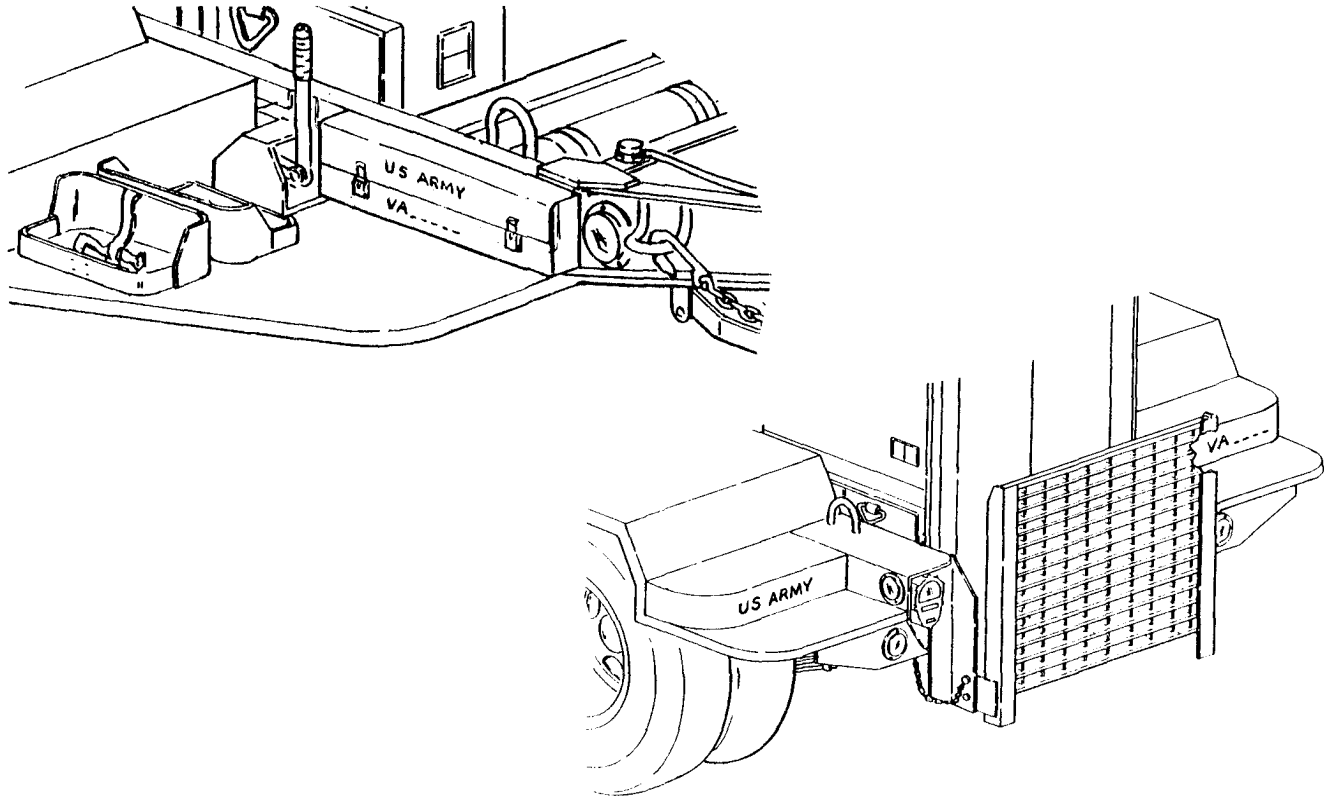

Figure 5-2. Power Unit Markings.
**5-4. Marking.** (See figure 5-2.) The power unit four-digit registration number, preceded by the prefix "VA" and the words "U.S. ARMY", is marked in three places on the trailer. Marking is done in accordance with MIL-STD-642. On the fender, over each wheel, "T.P. 35 PSI" is marked in  $1.00 \pm .12$  inch high characters in accordance with MIL-STD-130. Figure 5-2 shows the approximate location of markings on the power unit. If required, touch-up painting of the base color shall be done in accordance with MIL-T-704, Type F, Color Green, No. 383 of MIL-C-46168.